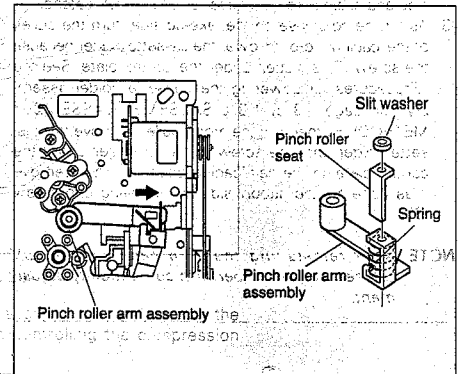

Fig. 2-2-10
- (1) Remove the spring from the hook of the press lever.
- (2) Remove the slit washer and remove the pinch roller seat. (See Fig. 2-2-10)
- (3) Remove the pinch roller arm assembly by pulling it up.